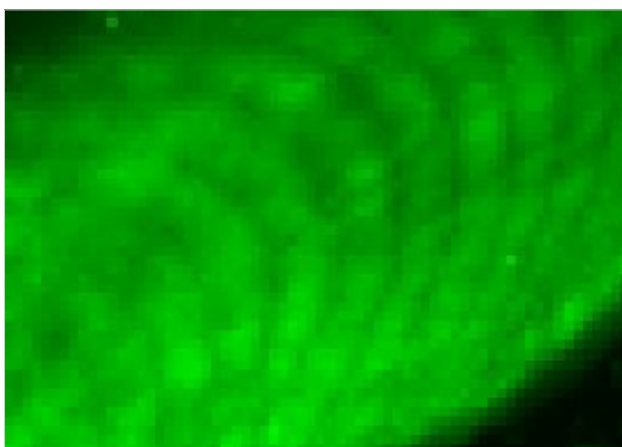

Figure 4 Stripe effects when a high step value (in this case 4) is chosen.
- ☞ The higher the step value, the faster the MIP will be generated. However, depending on the dataset acquisition settings (optimal or larger z-step size), a high step value can lead to stripe artefacts (Fig. 4). A Step value of 2 enhances the processing time considerably, but rarely leads to any noticeable changes in the resulting MIP image. The preview image will give a good estimation of processing effects as well as processing time.